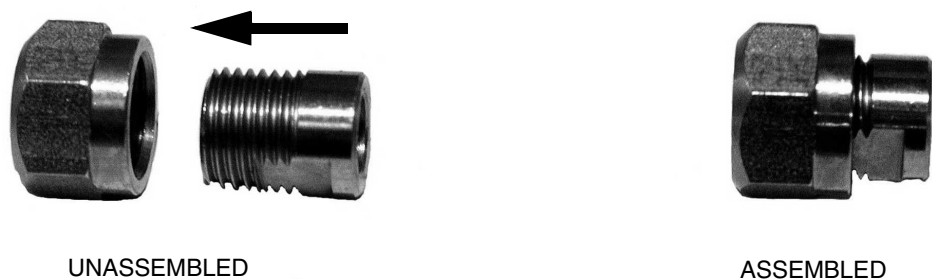

FIGURE 3. Bushing/Nut Assembly
4. Assemble the threaded bushing and nut as shown in Figure 3.